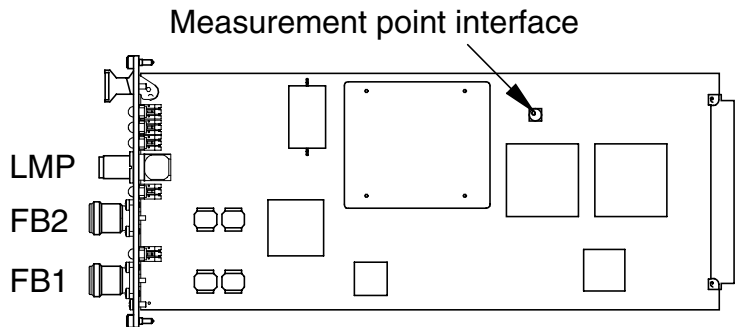

Figure 4. Location of interfaces
- Figure 4. Location of interfaces **18**
In addition, the front panel has three LEDs (red, yellow, green) to indicate RRIC status and two green LEDs to indicate the Flexbus interface power status. Furthermore, there is a measurement interface (SMB connector) located on the printed circuit board (Figure 4).